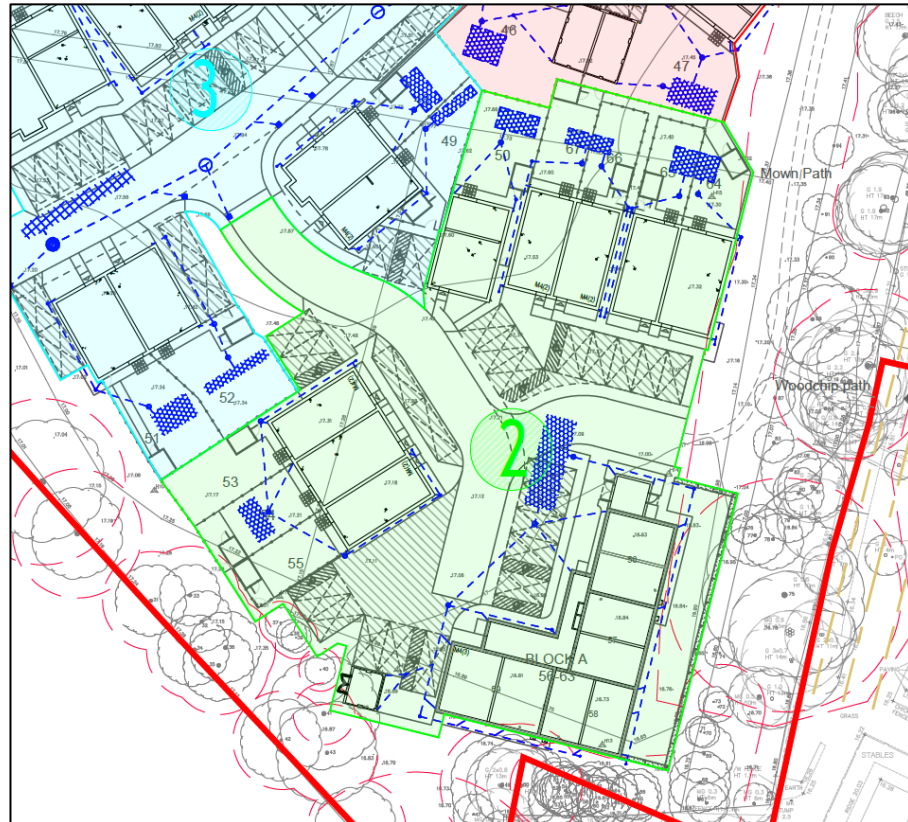

Figure 2- Site extent of Area 2
- 1.10 **Figure 2** shows the extent of Verification Area 2, comprising of 16 dwellings and associated roads.